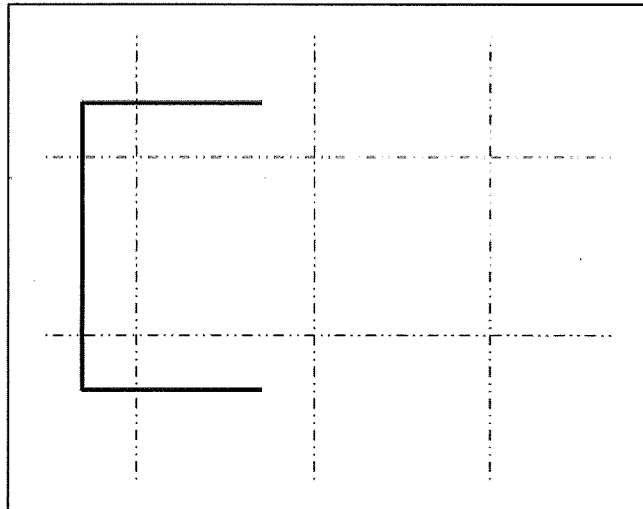

Figure P4-7 View after placing three lines in Step 2
STEP 1: In the Attributes tool box, set the **Active Level** to **Object**, set the **Active Color** to **white (0)**, the **Active Line Style** to **0 (solid line)**, and the **Active Line Weight** to **2**.
STEP 3: Invoke the Place Line tool from the Task Navigator tool box (active task set to Linear) and place three lines using the following precision key-ins (see Figure P4-7):